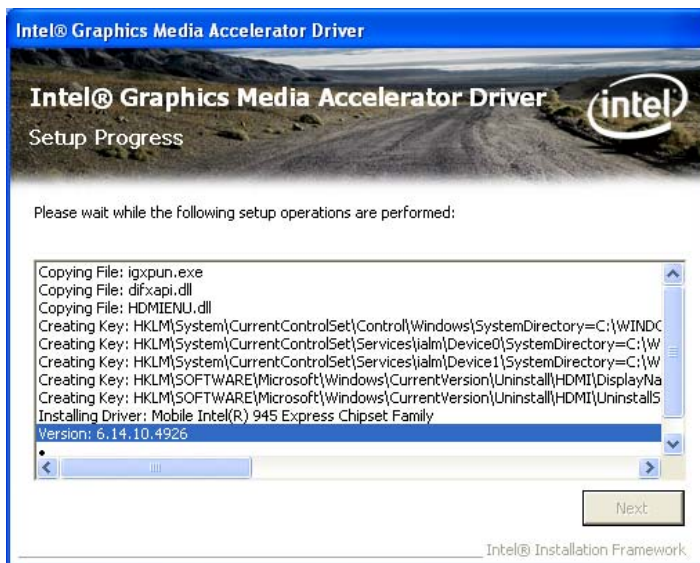

Figure 6-13: VGA Driver Setup Operations
Step 14: Setup operations are performed as shown in **Figure 6-13**.